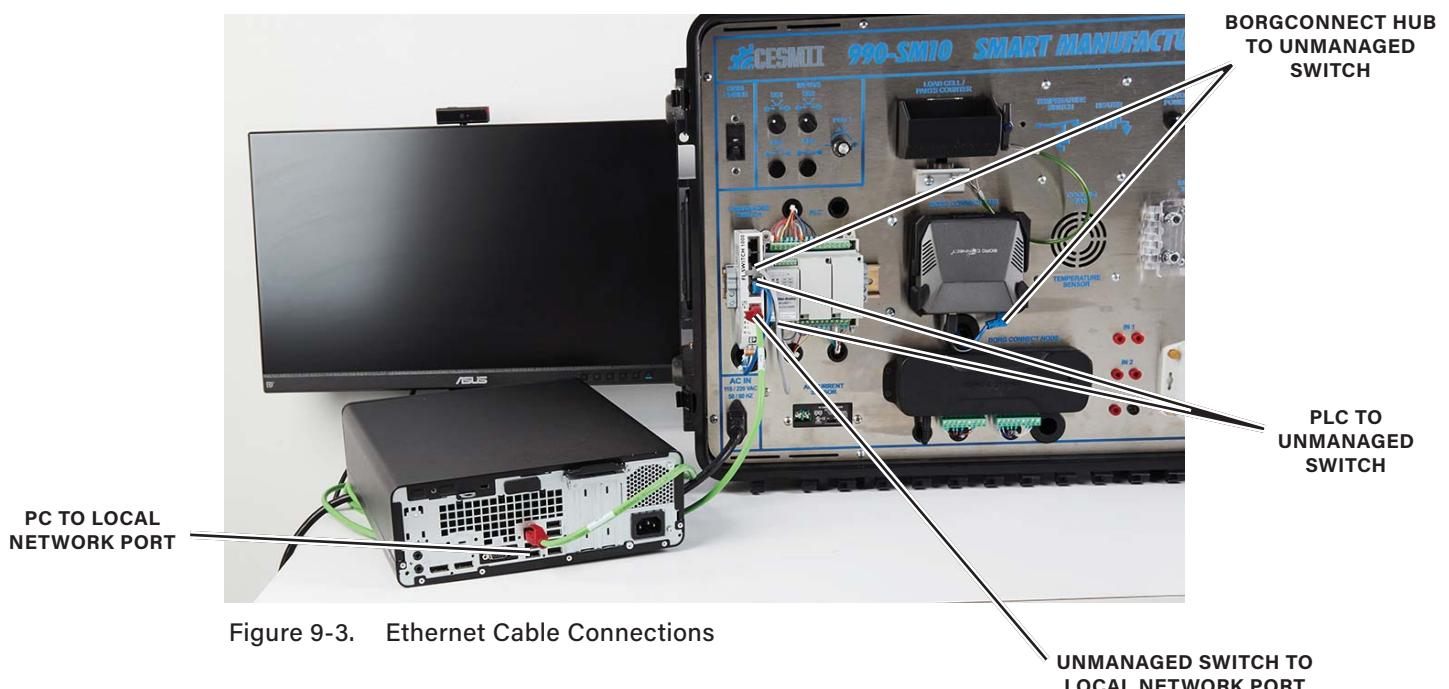

Figure 9-3. Ethernet Cable Connections
- B. Connect the Ethernet cables between the unmanaged switch, PLC, PC, and local network port, as shown in figure 9-3.